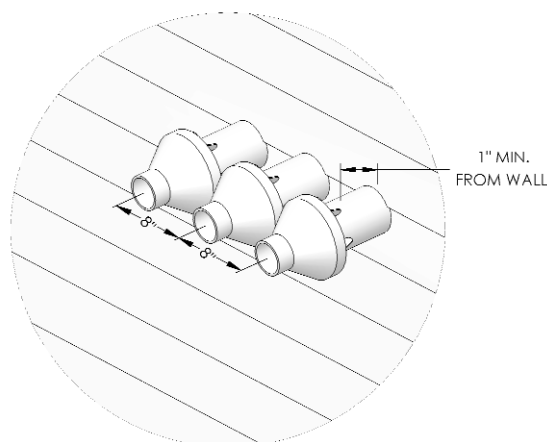

Figure 7: Multiple Boiler Installations
9. Minimum center-to-center distance between concentric vent terminations is 8". Terminations must line up horizontally as shown in Figure 7.